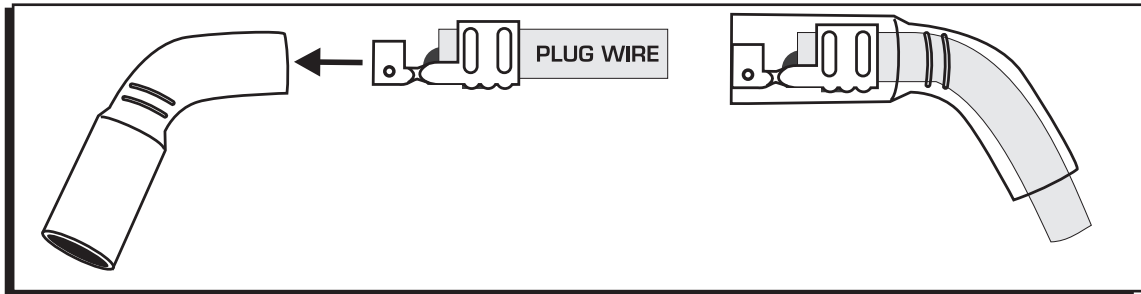

Figure 7 Boot & Installation and Terminal Depth.
11. To ease installation of the boots, use a drop of a dielectric grease such as MSD's Spark Guard, PN 8804. A can of spray silicone will also work well. Proceed with inserting the wire into the boot (Figure 7).